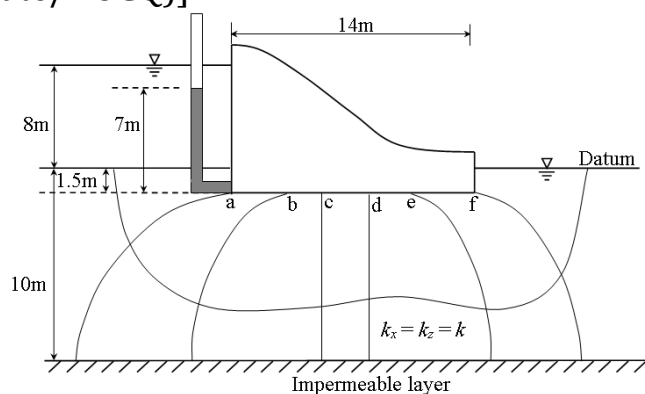

Figure 3
- (c) Determine the uplift pressures at the points a and c at the base of the dam (Fig. 3). (C05) (Evaluate/HOCQ)]